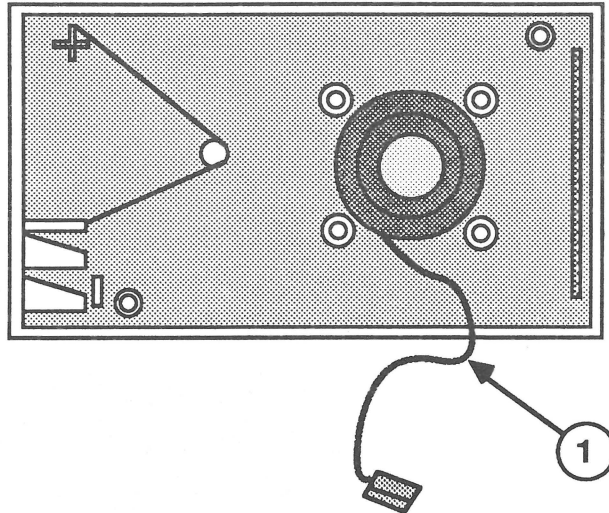

FIGURE 4
1. If the speaker was removed, place the speaker in the bottom of the case so that the cable extends toward the left side of the case (Figure 4, #1).